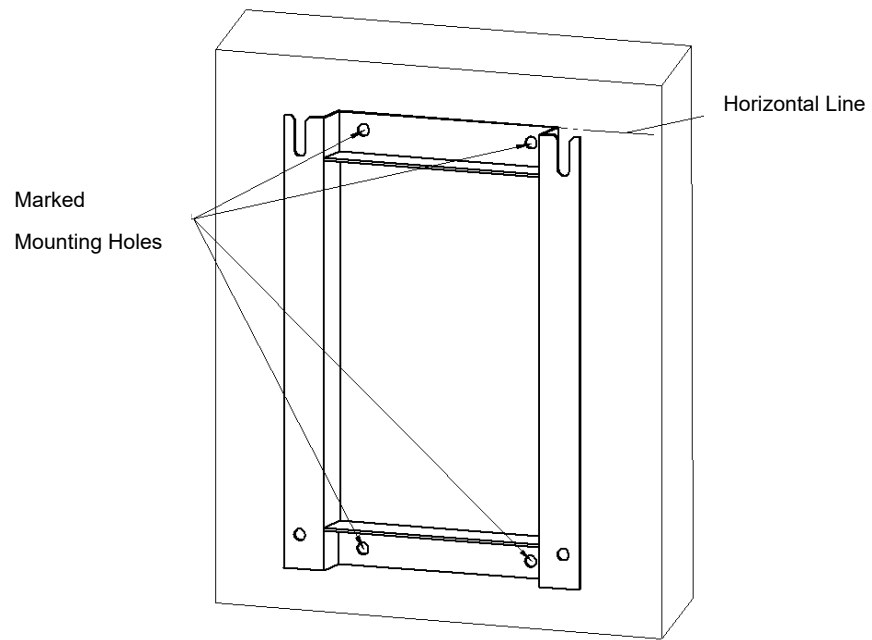

Figure 2
4. Use the mounting bracket as a template, place bracket on the flat wall where manifold will be mounted as shown in Figure 2. Align the top of the bracket with the horizontal line and mark the location of the mounting holes.